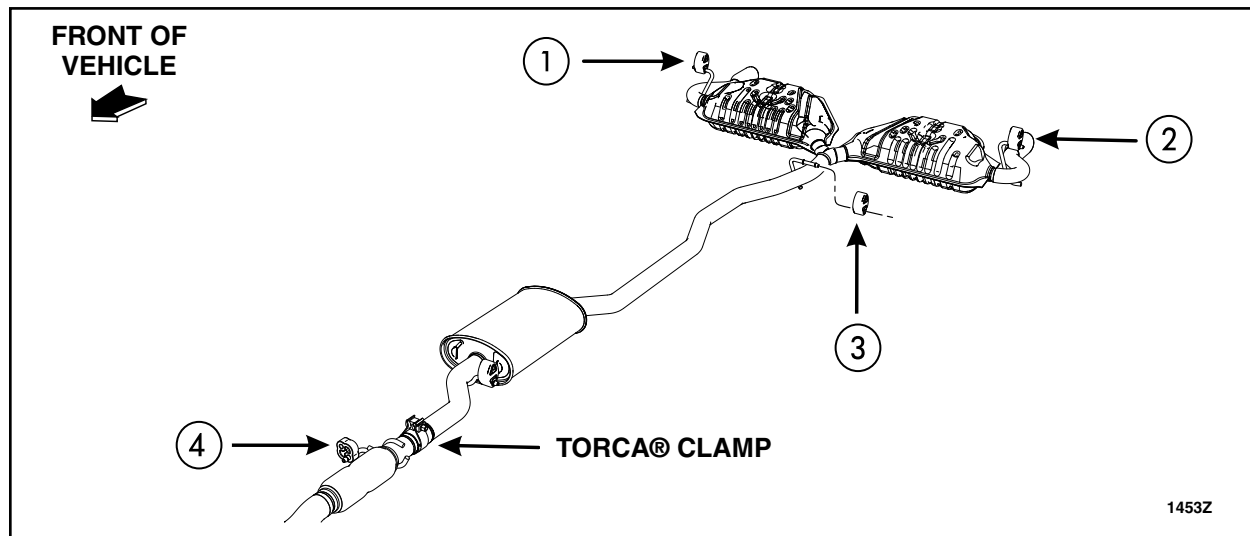

FIGURE 2
- Detach the four (4) muffler and tailpipe assembly isolators. See Figure 2.